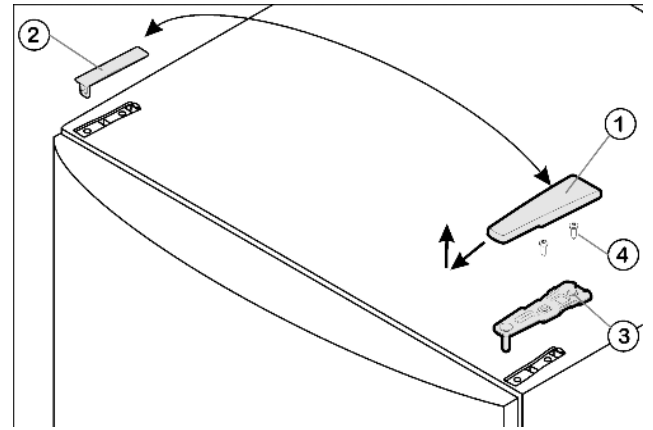

Fig. 4
- ▶ Pull off the cover Fig. 4 (1) forwards and upwards.
- ▶ Lift off the cover Fig. 4 (2)
- ▶ Unscrew the upper turn hinge Fig. 4 (3)(2 Torx 25) Fig. 4 (4) and raise it for removal.
- ▶ Insert the upper turn hinge Fig. 4 (3) in the door on the new hinge side.
- ▶ Screw the top turn hinge firmly into place (with 4 Nm). (2x Torx 25) Fig. 4 (4). Possibly make preliminary holes with a Bradawl or use a cordless screwdriver.
- ▶ Apply the cover Fig. 4 (1) and cover Fig. 4 (2) to the opposite side from the outside and snap them into place.